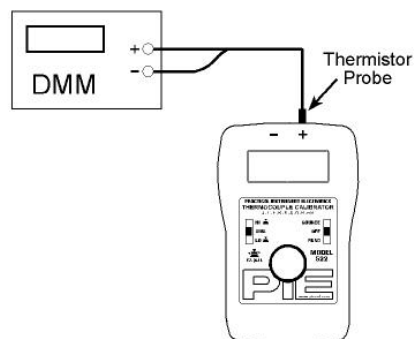

FIGURE 3 (Cold Junction Cal)
1. Connect the thermistor probe to the + side of the T/C connector (See Figure 3).